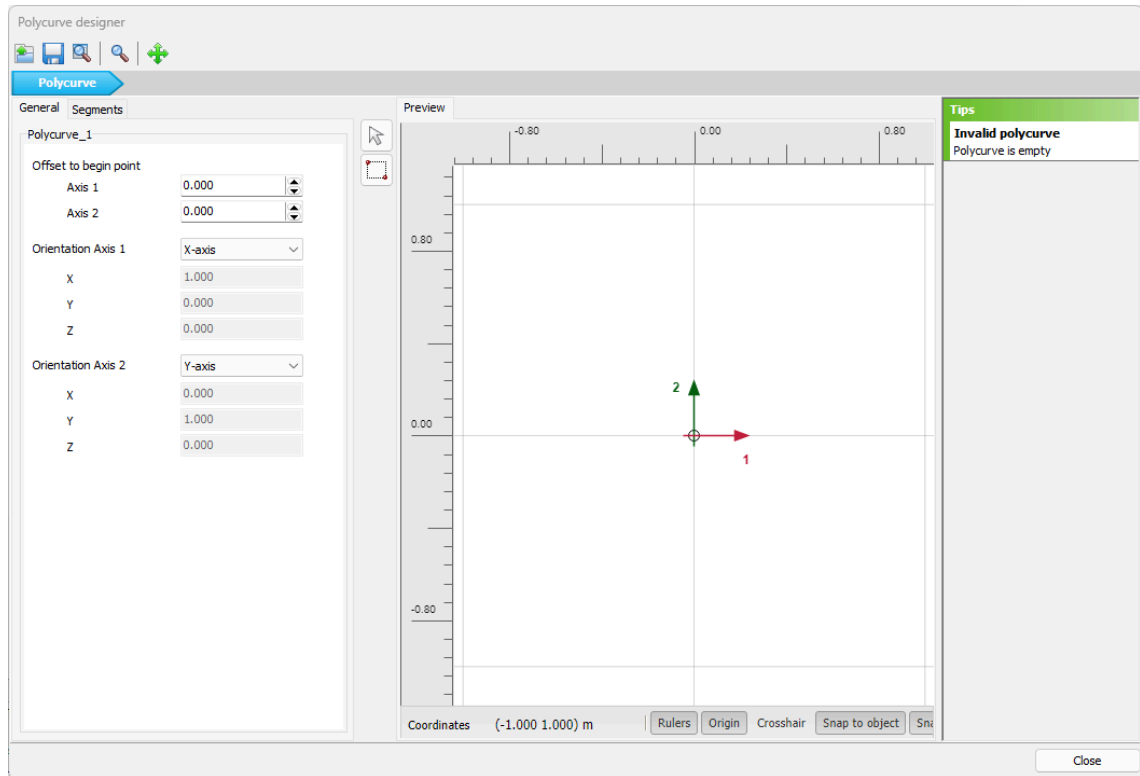

Figure 3-2: General tabsheet of the Polycurve designer
- 4 The polycurve is drawn in the xy-plane (see the Figure 3-2 \(p. 63\)). Hence the default orientation axes are valid for this example.